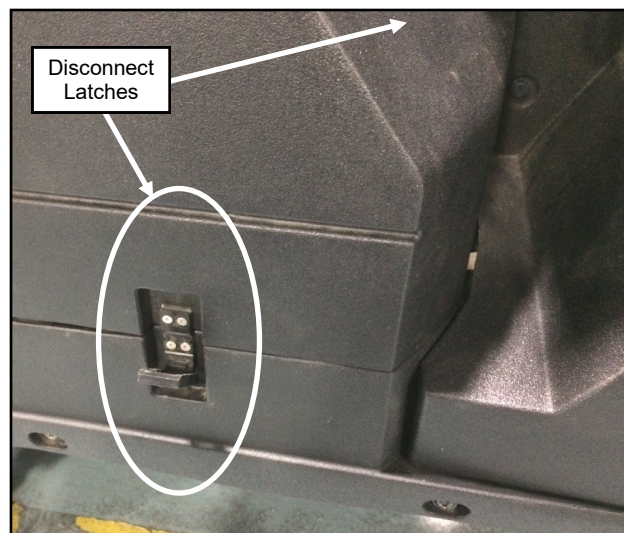

Fig. 2.13 (Remove Battery Cover, Pro-DX)
**2.13** Disconnect the (2) small latches found on either side of the battery cover and set aside the cover per fig. 2.13.